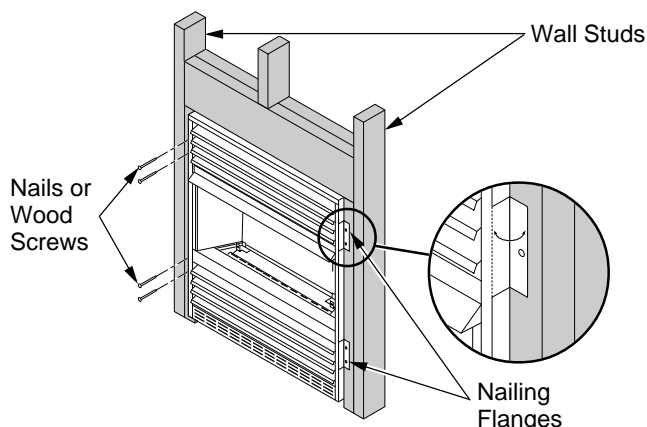

Figure 10 - Attaching Fireplace to Wall Studs
7. Bend four nailing flanges on outer casing with pliers (see Figure 10).